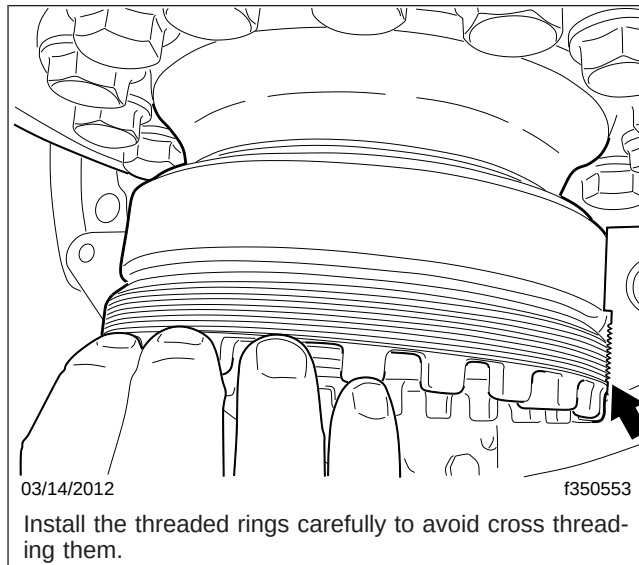

Fig. 5, Threaded Ring Installation
18. To install the M175 threaded ring, carefully align the threads in the ring with the threads in the carrier housing (see Fig. 5), and hand tighten it until it is flush with the bearing race.